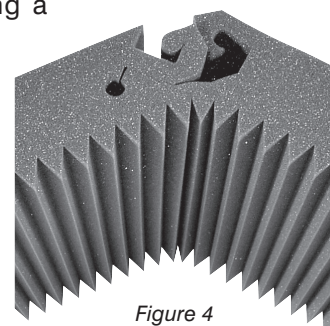

Figure 4
3. A more “curved” environment (figure 4). If you desire the MAX-Wall™ to “surround” you beyond the normal hinging of the panels, you can “fracture” the hole lock in the center of the panel, creating a 45° with an individual panel. Be aware that the hole lock can be restored, but may not be as strong or attractive as before. The “fractured” panels are best used when the ends are interlocked with other panels to prevent sagging.